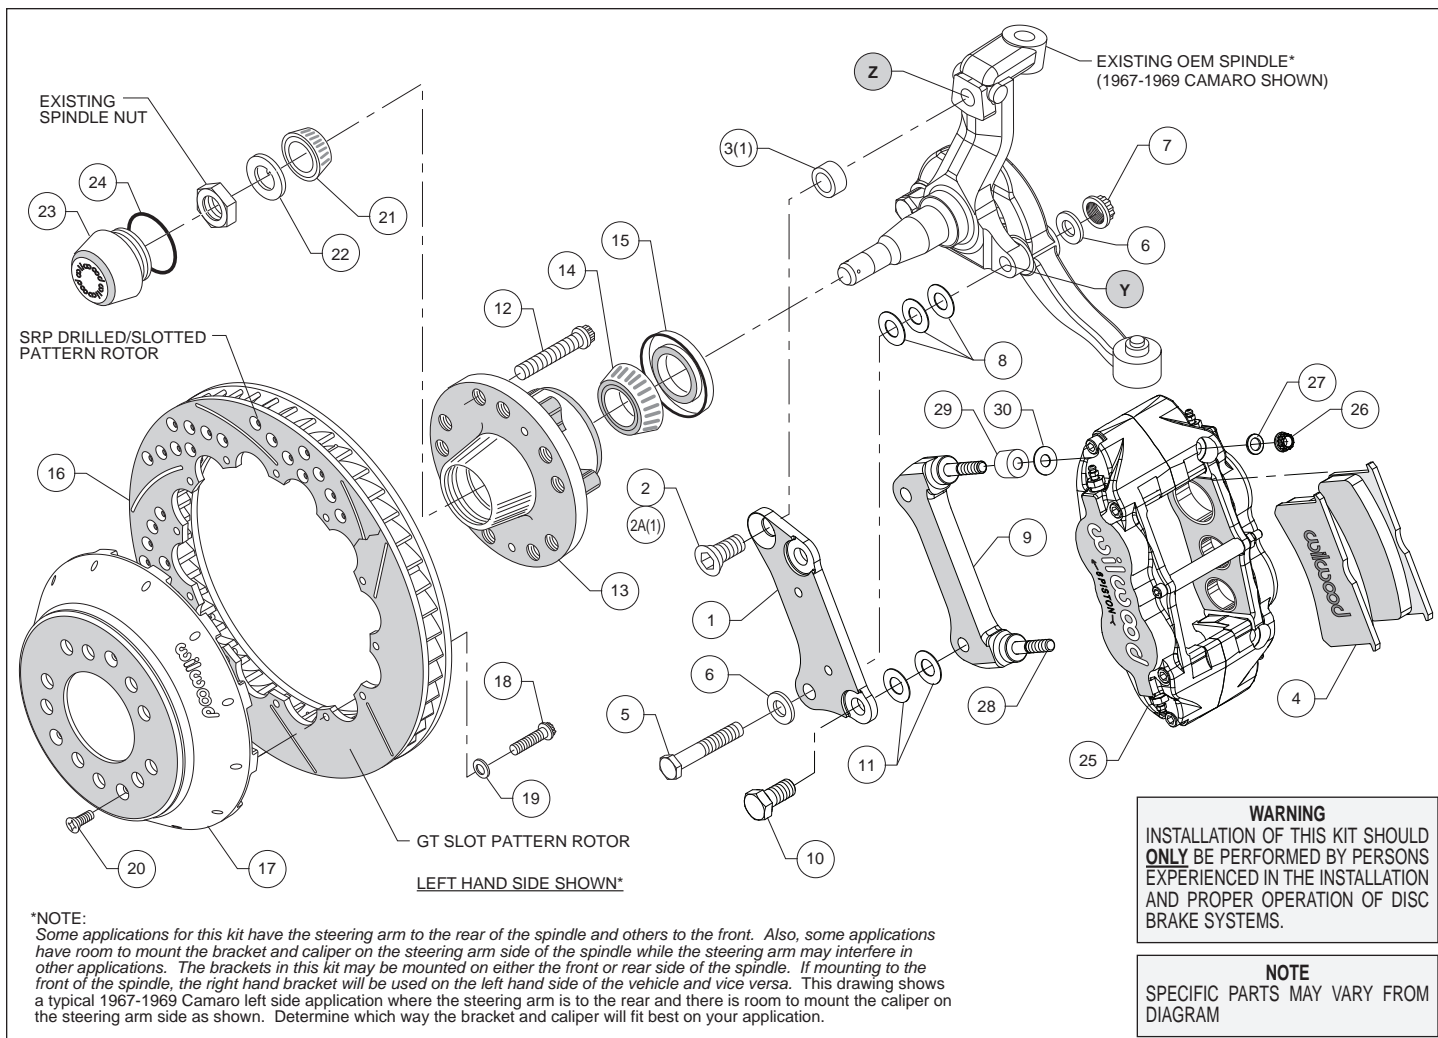
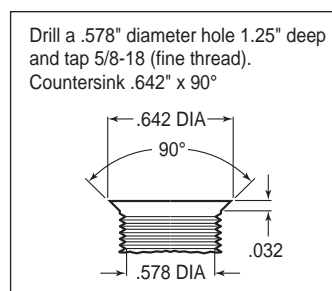
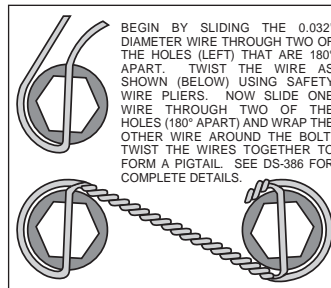

Figure 1. Typical Installation Configuration
Figure 3. Drill and Tap Detail
Figure 4. Safety Wire Diagram
Assembly Instructions (numbers in parenthesis refer to the parts list on the preceding page, and Figure 1):
•**NOTE:** Some applications for this kit have the steering arm to the rear of the spindle and others to the front. Also, some applications have room to mount the bracket and caliper on the steering arm side of the spindle while the steering arm may interfere in other applications. The brackets in this kit may be mounted on either the front or rear side of the spindle. If mounting to the front of the spindle, the right hand bracket will be used on the left hand side of the vehicle and vice versa. Figure 1 shows a typical 1967-1969 Camaro left side application where the steering arm is to the rear and there is room to mount the caliper on the steering arm side as shown. Determine which way the bracket and caliper will fit best on your application.
•**NOTE:** Some spindles in this year range may require the following modifications (reference Figure 1 and Figure 3): Top anchor pin hole (Z) must be drilled and tapped to the dimensions as outlined in Figure 3. The lower bolt hole (Y) in the spindle used to mount the new caliper bracket, and the mating steering arm hole, must be enlarged to .50" by drilling. It is recommended these modifications be performed by a qualified machinist.
•Install wheel studs (12) into the hub (13), Photo 1. Torque to 77 ft-lb. **NOTE:** There are two five lug patterns in the hub (5 x 4.50 and 5 x 4.75). Make sure of the correct hole pattern for the correct wheel application before installing studs into hub.
•Pack the large inner bearing cone (14) with high temperature disc brake bearing grease (available from your local auto parts store) and install into the backside of the hub (13).
•Install the grease seal (15) by pressing into the backside of the hub (13), Photo 2.
•Orient the rotor (16) and the hat (17) as shown in Figure 1 and Photo 3. Attach rotor to hat using bolts (18) and washers (19). Using an alternating sequence, apply red *Loctite*® 271 to the threads, and torque to 155 **in-lbs**. For an added measure of security, the bolts may be safety wired using standard 0.032 inch diameter stainless steel safety wire as shown in Figure 4. Please refer to Wilwood's data sheet DS-386 (available at www.wilwood.com/Pdf/DataSheets/ds386.pdf) for complete safety wire installation instructions.
- Disc Brake Spindle Application Only:** Follow the instructions below, but instead use bolt (2A), and spacer (3) in the upper bolt hole location, Figure 1.
- Orient the flat bracket (1) as shown in Figure 1 and Photo 4, and install using bottom bolt (5), washers (6), and nut (7), Figure 1. Initially place three .032" thick shims (8) between the bracket and spindle. Install the upper bolt (2 or 2A). Temporarily tighten bolts. **NOTE:** *The bracket must fit squarely against the mounting surfaces on the spindle.* Inspect for interference from casting irregularities, machining ridges, burrs, etc. Temporarily install the new hub, hat and rotor assembly. Check that the bracket is aligned parallel to the rotor, Photo 5. If not, adjust by adding or subtracting shims (8) on the lower bolt between the bracket and spindle, Figure 1. Once the bracket alignment is correct, remove the upper bolt (2 or 2A), apply red *Loctite*[®] 271 to the bolt threads, and torque to 120 ft-lb. Torque the lower lock nut to 65 ft-lb.
- The radial mount caliper bracket (9) should initially be installed with clean, dry threads on the mounting bolts. Orient the bracket as shown in Figure 1 and Photo 6, and install using bolts (10). Initially place two .029 thick shims (11) on each bolt between the two brackets, Figure 1. Temporarily tighten the mounting bolts. Later, after the caliper alignment has been checked, the mount bolts will be secured using red *Loctite*[®] 271.
- Pack the small outer bearing cone (21) with high temperature disc brake bearing grease and install into hub (13). Final install the hub assembly onto the spindle. Secure using spindle washer (22) and OEM spindle nut, Photo 7. Adjust bearings per OEM specifications. Install saved OEM nut lock (if any) and a new cotter pin (not included).
- Screw dust cap (23) into hub (13). Friction created by the o-ring (24) on the dust cap keeps it from unscrewing. **NOTE:** *The O.D. of the existing OEM spindle washer may be larger than the I.D. of the dust cap not allowing it to seat against the hub face. Therefore, use the spindle washer (22) supplied with the kit instead of the OEM washer.*
- Final install the rotor (16 and 17) assembly onto the hub (13), taking care to align the small countersunk holes in the hat with the small threaded holes in the hub. **NOTE:** *The hat must fit flush against the hub face or excessive rotor run out may result.* Install three flat head screws (20) through the small holes in the hat (17), Photo 8, and torque to 85 in-lb.
- NOTE:** *This kit contains distinct right and left hand calipers that must be mounted in a specific direction, as described below.* Lubricate the caliper mounting studs (28) with lightweight oil. Initially place spacer (29) and one .035" thick shim (30) on each stud between the caliper and the bracket, as shown in Figure 1 and Photo 9. Mount the caliper (25) onto the bracket (9) using lock nuts (26) and washers (27), Figure 1. Ensure that the caliper is mounted so the largest pistons are at the rotor exit end of the caliper, in relation to the direction of rotor rotation. Temporarily tighten the lock nuts. The rotor should be centered in the caliper, Photo 10. If not, adjust by adding or subtracting shims (11) between the flat bracket (1) and the caliper bracket (9). Always use the same